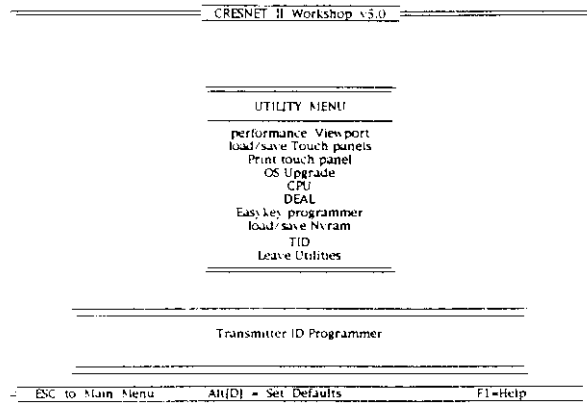

Figure 4. UTILITY MENU, Workshop
- From the MAIN MENU, highlight Utilities and depress ENTER. The UTILITY MENU, illustrated in figure 4, appears on the display.